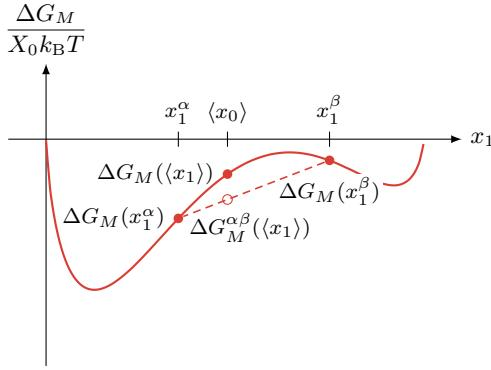

Figure 2.24: Tie lines predict the favorability of demixing.
- Therefore, if the tie line lies above the curve, demixing will raise the energy of the system and will not occur. If the tie line lies below the curve, demixing will lower the energy of the system and will occur. As such, with the choices of  $\langle x_1 \rangle$ ,  $x_1^\alpha$ , and  $x_1^\beta$  in Figure 2.24, mixing will occur.